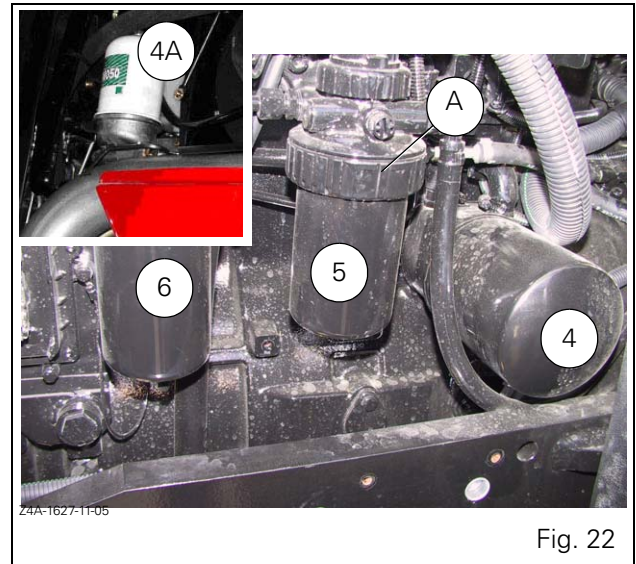

Fig. 22
To replace the filter 4 and 4A (Fig. 22)
Check the prefilter bowl for water at regular intervals and drain as necessary (5 Fig. 22).
**Replace the filter element every 400 hours** (6 Fig. 22).